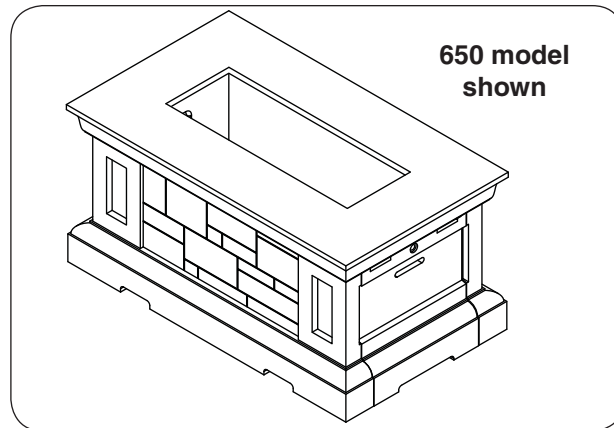

Fig. 17-1 Two-piece model: place unit
1. **CAREFULLY** place the unit in an appropriate location (see Fig. 17-1, and refer back to the LOCATION section if needed).